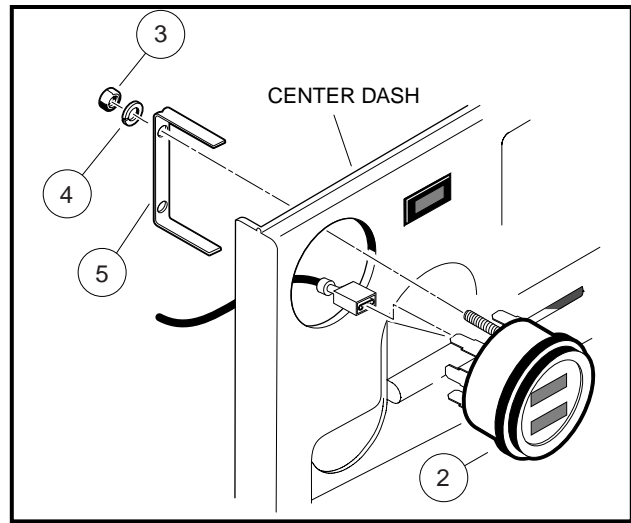

Figure 12-23 Fuel/Hour Gauge Installation
3. Disconnect the wires from the fuel/hour gauge (**Figure 12-23, Page 12-23**).
- Remove the two hex nuts (3) and lock washers (4) from the threaded studs on the back of the gauge. Remove the mounting bracket (5) from the back side of the gauge and remove the gauge (2) from the dash.
- Install a new gauge into hole in dash until flange seats against dash (**Figure 12-23, Page 12-23**).